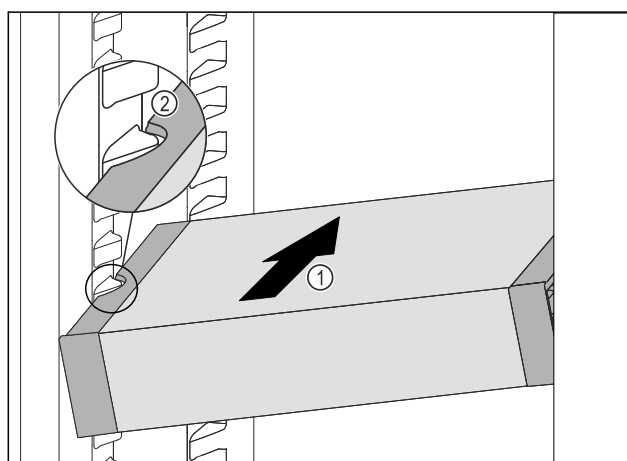

Fig. 80
- Insert the VarioSafe into the fridge section at an angle Fig. 80 (1) until the recesses in the side Fig. 80 (2) of the VarioSafe are at the level of the support rib in the fridge section.